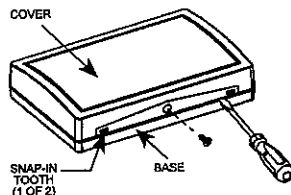

Figure 5-1.
- A. Remove the screw securing the plastic cabinet cover to the base (see Figure 5-1).